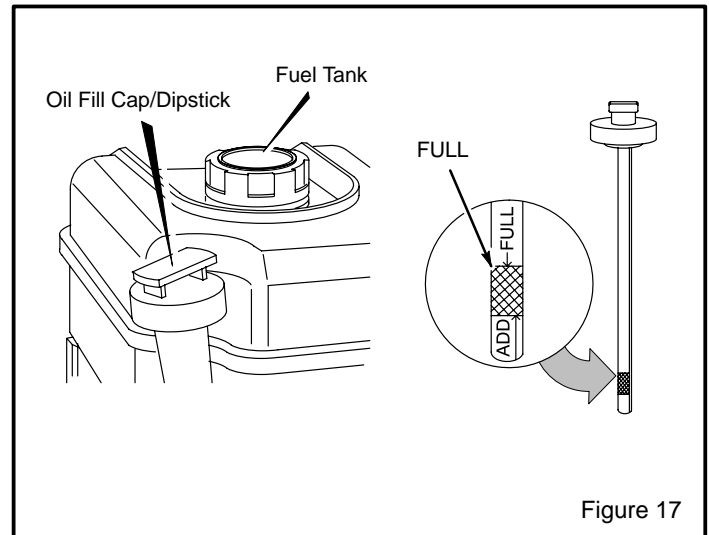

Figure 17
3. If necessary, add oil until the oil reaches the FULL mark on the oil fill/cap dipstick (see Figure 17). Do not add too much oil.